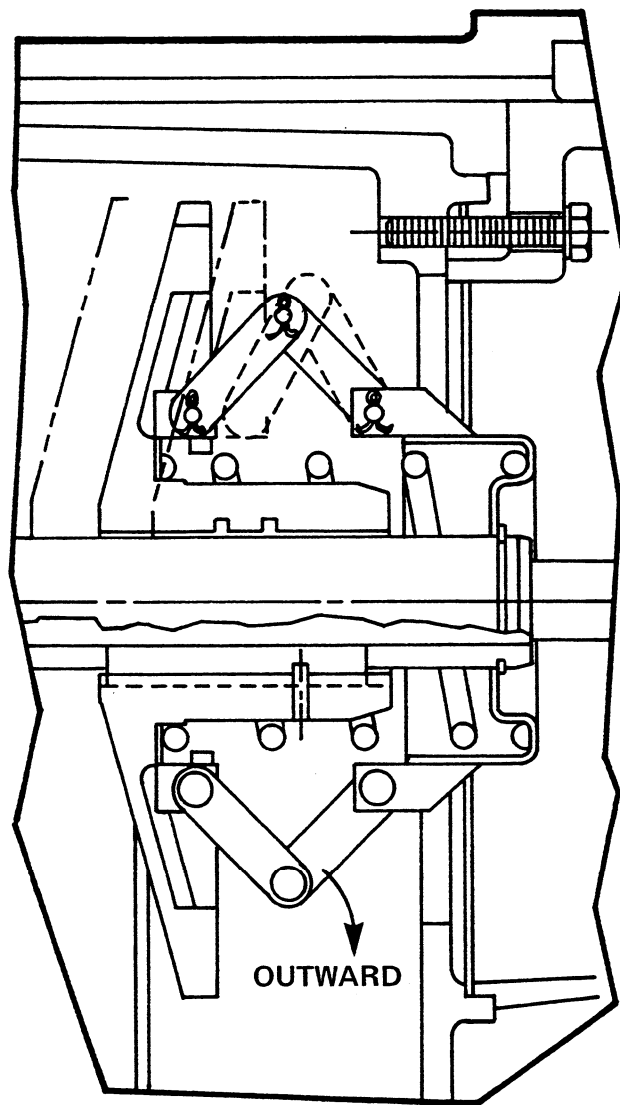

FIGURE 6
10. On units supplied with a spring compensator (Refer to fig. 6). Make sure compensator arms are open outward when discs are assembled to shaft.